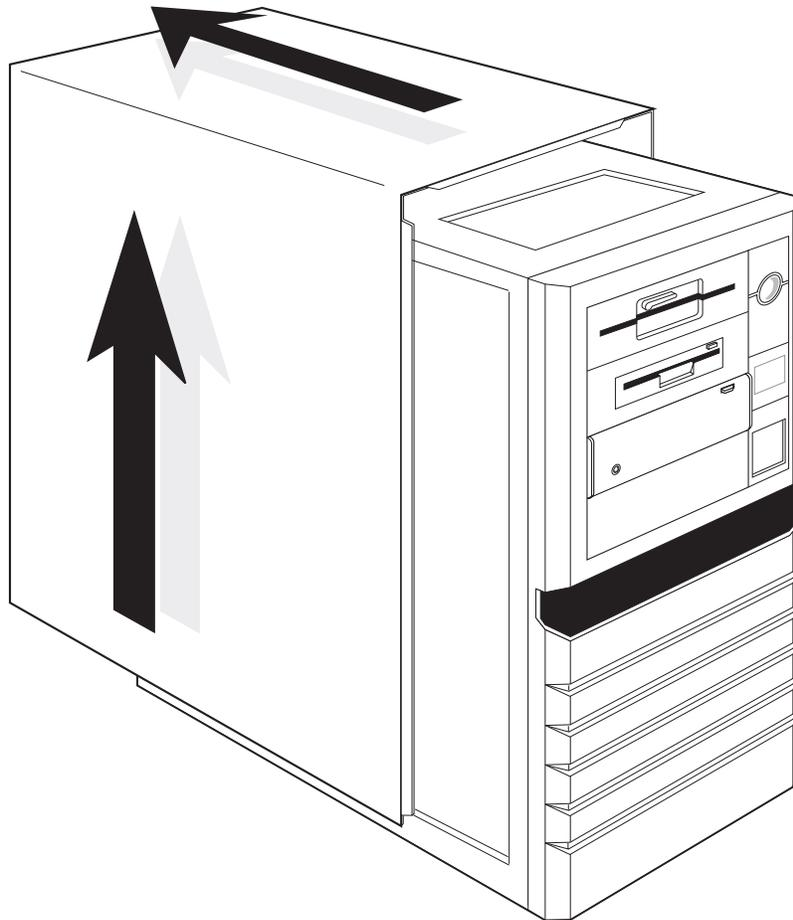

Figure 7-1: Desktop Chassis Cover Removal
4. Slide the top cover back and lift the rear edge up (as indicated by the arrows on Figure 7-1). Remove the cover and place it out of the way.